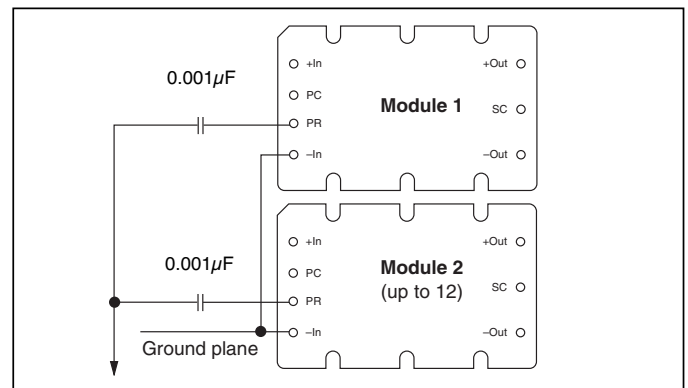

Figure 10 — AC coupled single-wire interface.
*AC coupled single-wire interface.* All PR pins are connected to a single communication bus through  $0.001\ \mu\text{F}$  (500 V) capacitors. This interface supports current sharing and is fault tolerant except for the communication bus. Up to three converters may be paralleled by this method. See Figure 10.